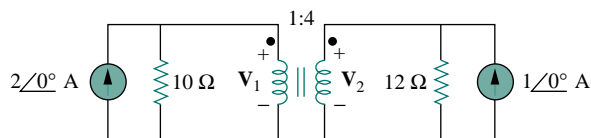

Figure 13.97 For Prob. 13.30.
- 13.30** Obtain \mathbf{V}_1 and \mathbf{V}_2 in the ideal transformer circuit of Fig. 13.97.